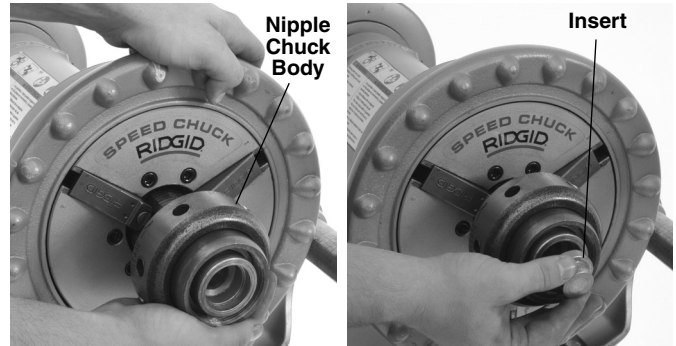

Figure 2 – Installing Nipple Chuck and Insert
7. If needed, install the insert (Figure 2):